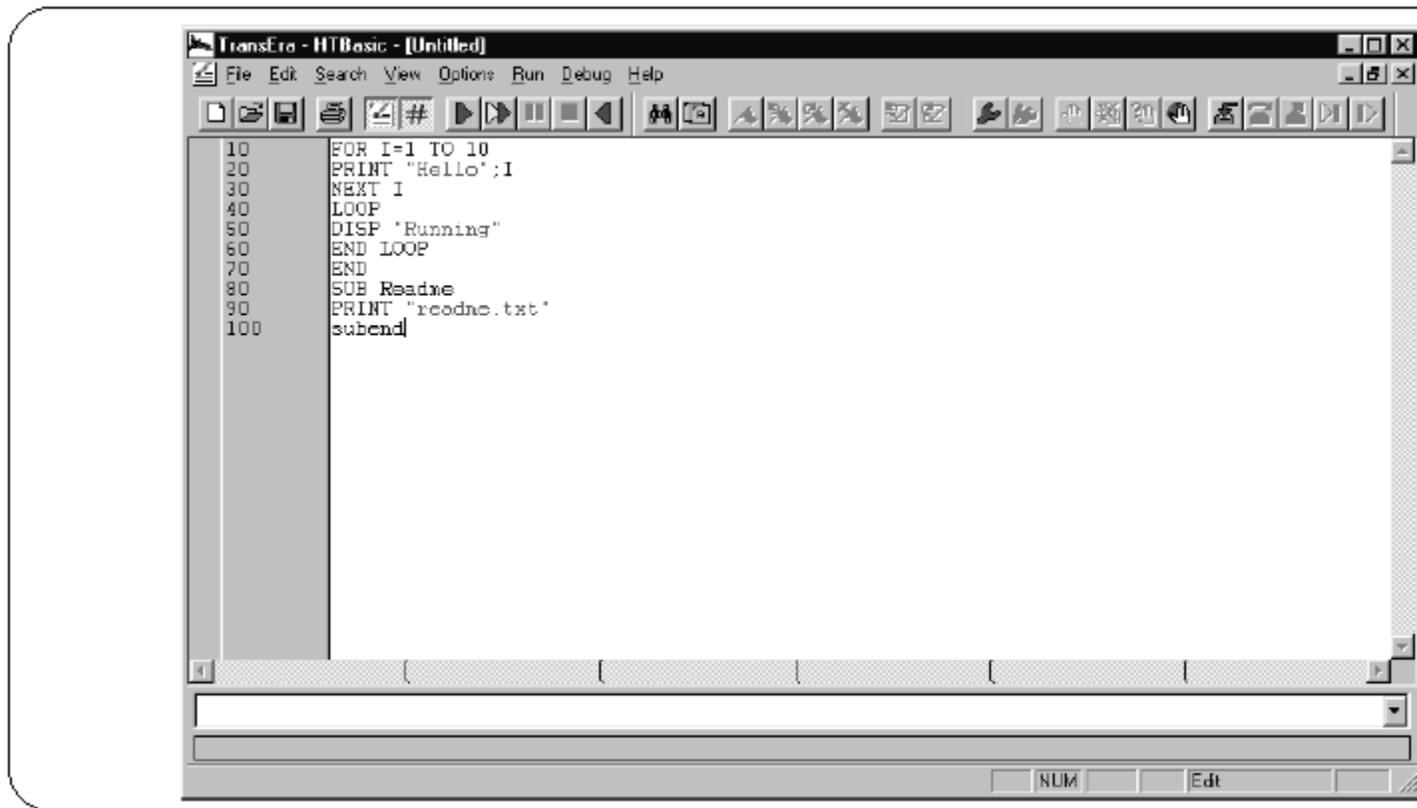

Figure 2-2. Example: Creating a Program
2. Type EDIT, and the program lines shown in Figure 2-2 from the keyboard. Begin typing at the **caret** (the blinking `_` icon) on the program window. Press the **Enter** key after entering each line of code. If you make a typing mistake, backspace and retype.